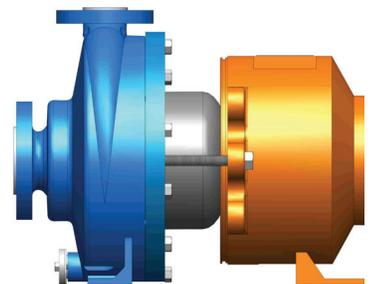

figure 11
4. Separate the magnetic coupling between the drive end and the pump end by using the (2) jackscrews (item 14). Using a  $\frac{3}{4}$ " socket turn the jackscrews clockwise. Be sure to turn the jackscrews evenly. Turn the jackscrews until they are fully extended. See figure 11.